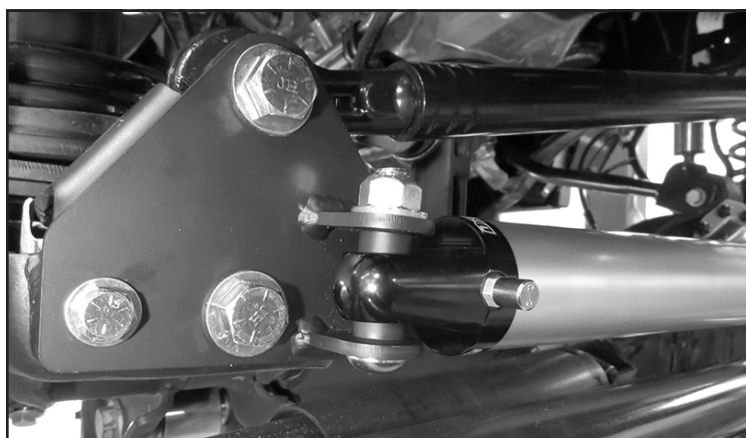

FIGURE 7 - STEP 8
8. Install FT850051-U (Dirt Logic Stabilizer) using two FT633 (Small spacer) and the supplied 1/2" button head bolt, nut and washers. **NOTE: Install the bolt from the bottom side. The schrader valve will need to be pointed out away from the bracket.** Torque to 106 ft-lbs. **SEE FIGURE 7**